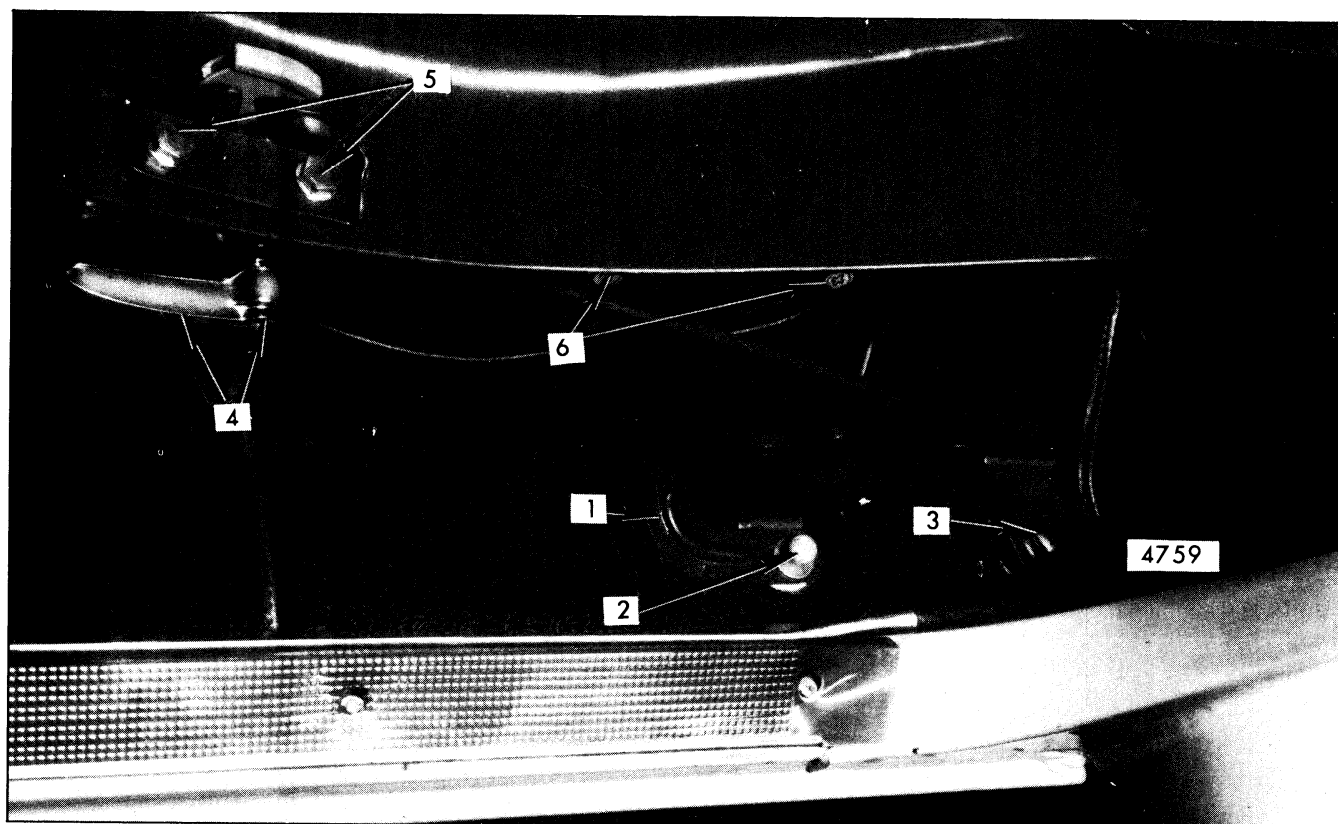

Fig. 9-85-Folding Second 2/3 Seat Back Outer Linkage and Seat Back Lock - "B" Body Three-Seat Station Wagon Shown - Two-Seat Station Wagon Typical
floor pan front bolt (see Figs. 9-85 and 9-86); then, lift cushion upward to disengage cushion retainers from floor pan studs, and remove cushion. To install, reverse removal procedure.
2. Remove linkage-to-seat back panel attaching screws, then remove linkage-to-floor pan attaching screws (Figs. 9-85 and 9-86) and remove linkage assembly.
5. Remove 2/3 seat back outer linkage-to-floor pan attaching bolts or nuts (Fig. 9-85); then, remove second 2/3 seat assembly including linkages from body.